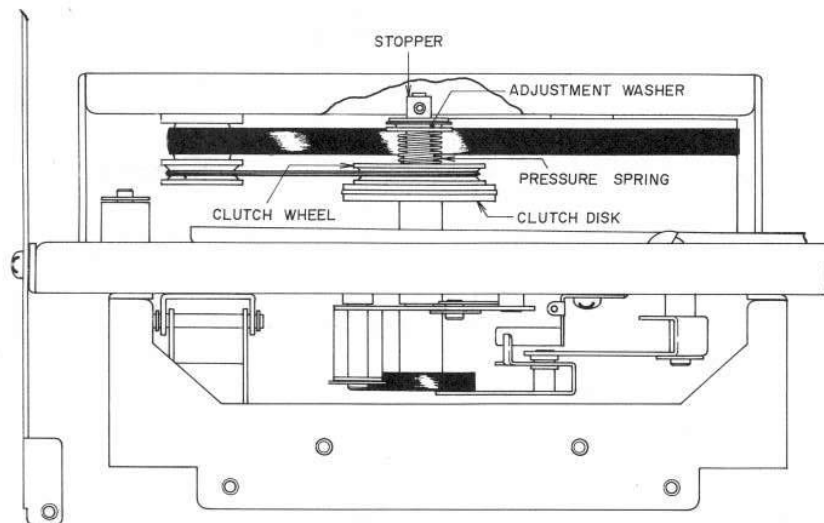

Fig. 4
2. FAST FORWARD AND REWIND TORQUE ADJUSTMENT (See Fig. 4)